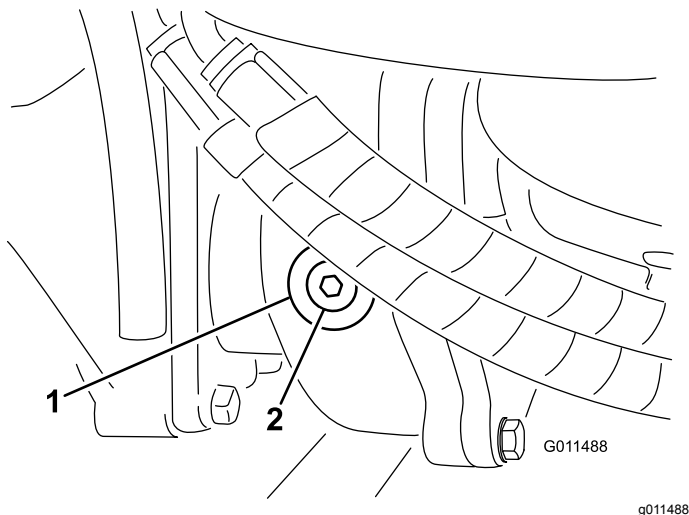

Figure 16
2. Remove the check/fill plug from the left side of the gear box and ensure that lubricant is up to the bottom of the hole (Figure 16).